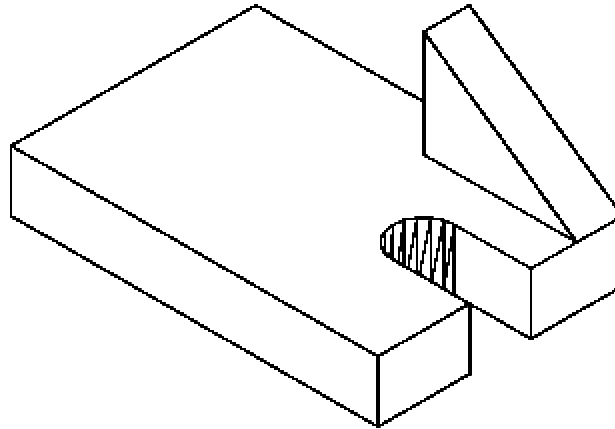

Figure 24-42 Wedge aligned with the base
7. Move this wedge using the endpoint so that it is properly aligned with the base, see Figure 24-42.